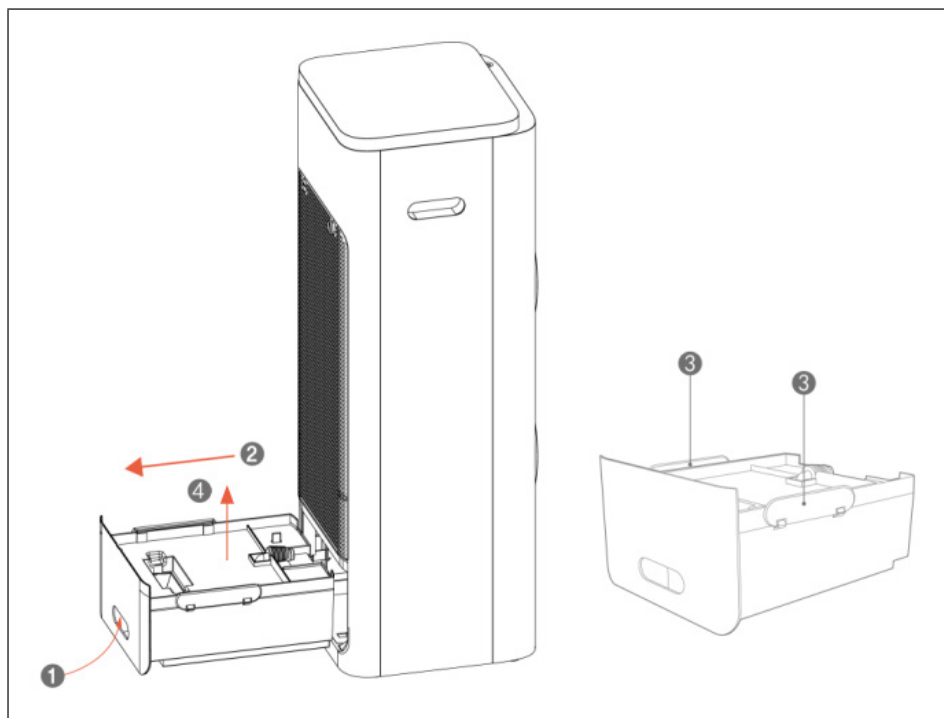

Figure 4
2. Pull out the water tank (see figure 4):
- a. Push against the top in the handle of the water tank (1).
- b. Pull out the water tank (2).
- c. Loosen the clasps on both sides of the cover of the water tank (3).
- d. Remove the cover of the water tank (4).